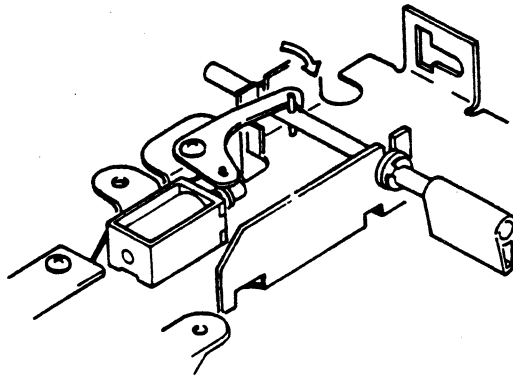

Figure 4-21 Door Lock Solenoid Activated
2. Refer to Figure 4-21. Select the disk drive, with the front level released, to activate the door lock solenoid and lock the door.